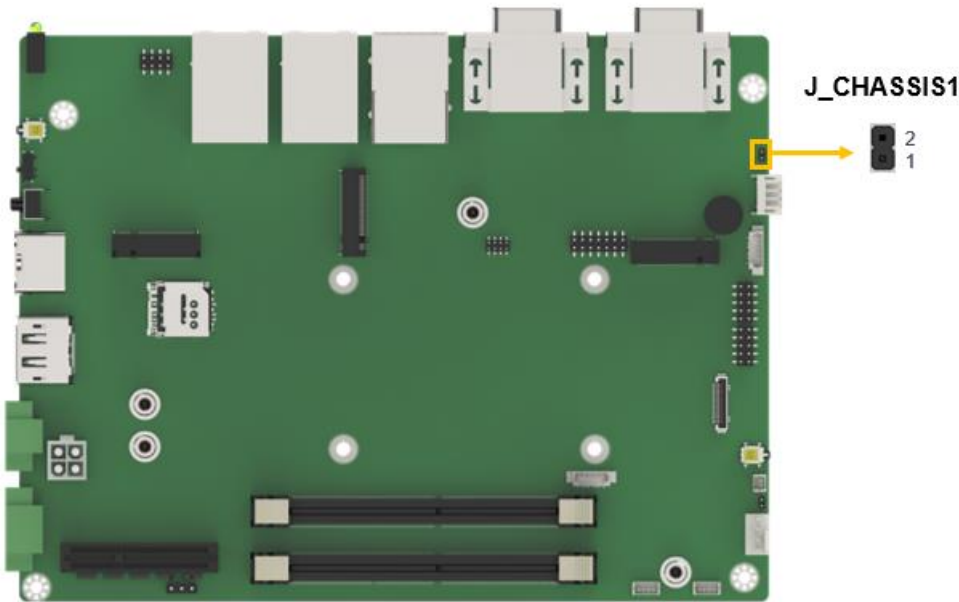

Figure 4-19: Chassis Intrusion Connector Location
- CN Location: See Figure 4-19